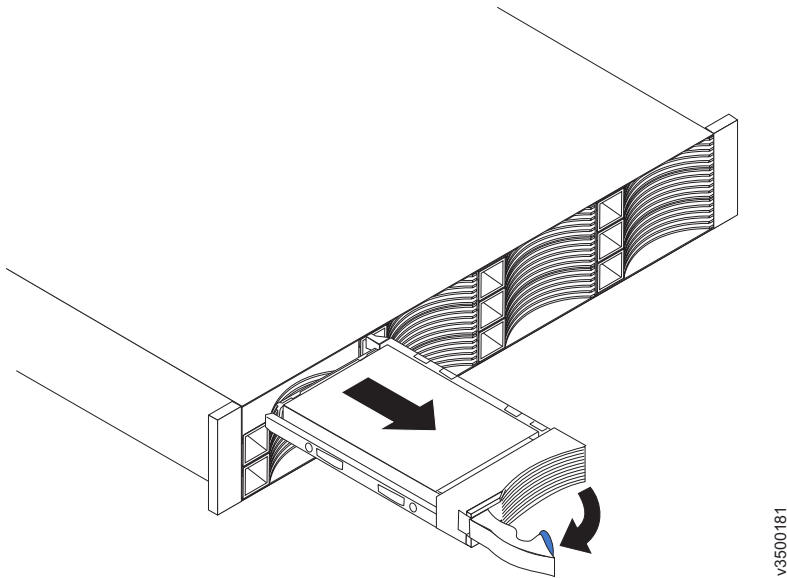

Figure 94. Unlocking and removing a 3.5-inch drive from its slot
5. Pull out the tray handle to the open position (see Figure 94 on page 322).